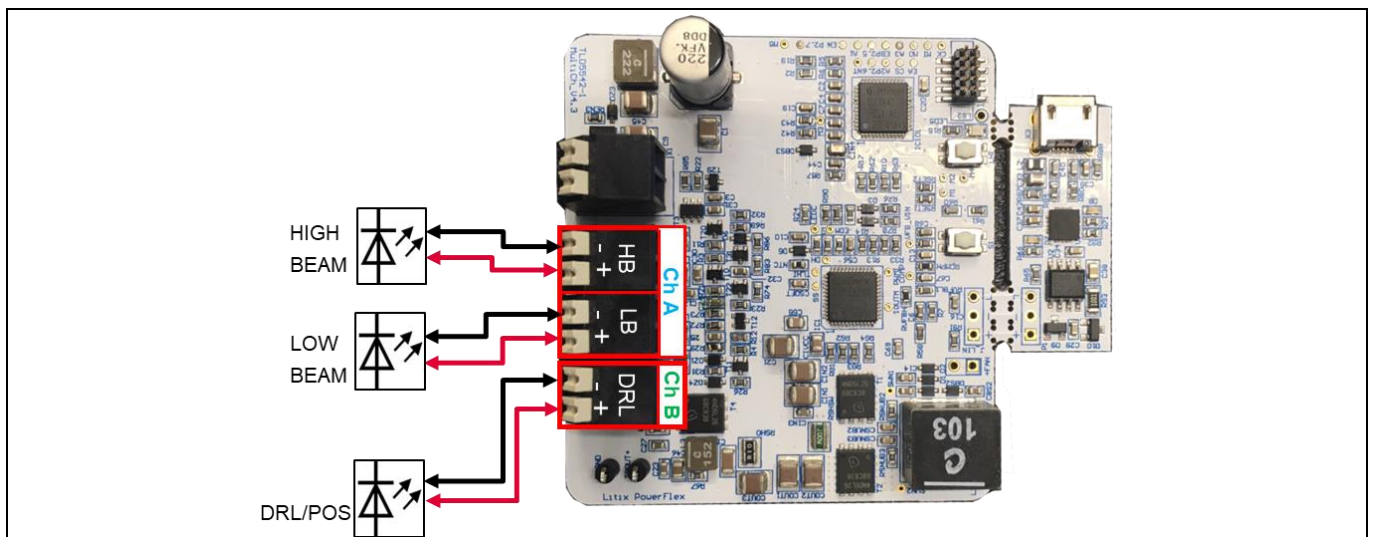

Figure 3 TLD5542-1 Multichannel evalboard - connect loads
1. Connect the load(s) to the HB, LB, DRL connectors as shown in Figure 3 , the software will automatically disable unconnected terminals